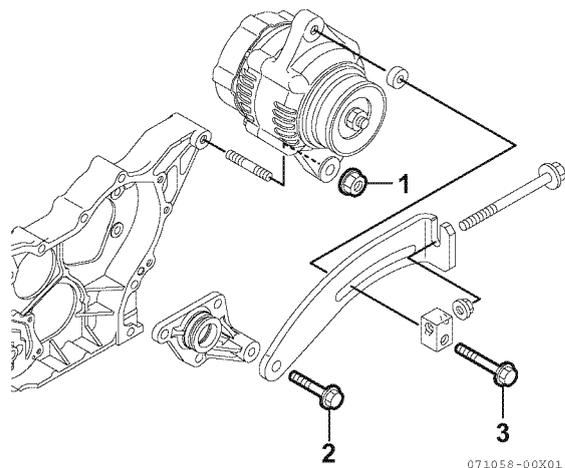

Figure 12-21
- 1- Insert the stud bolt of the gear case to the alternator, and temporarily tighten the alternator mounting nut (1, Figure 12-21).
- 2- With the belt adjuster mounting bolt (2, Figure 12-21) temporarily tightened, temporarily tighten the belt adjuster tightening bolt (3, Figure 12-21).